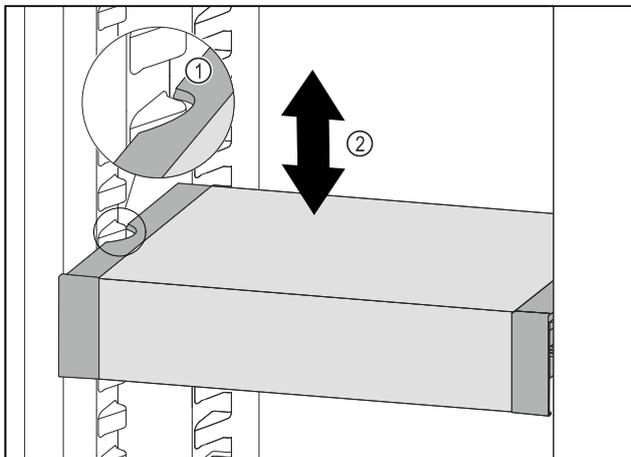

Fig. 100
- ▶ Pull VarioSafe forwards until the recesses in the side of the VarioSafe are at the level of the support rib in the refrigerator compartment. Fig. 100 (1)
- ▶ Move VarioSafe up or down in the refrigerator compartment until the desired height is reached. Fig. 100 (2)